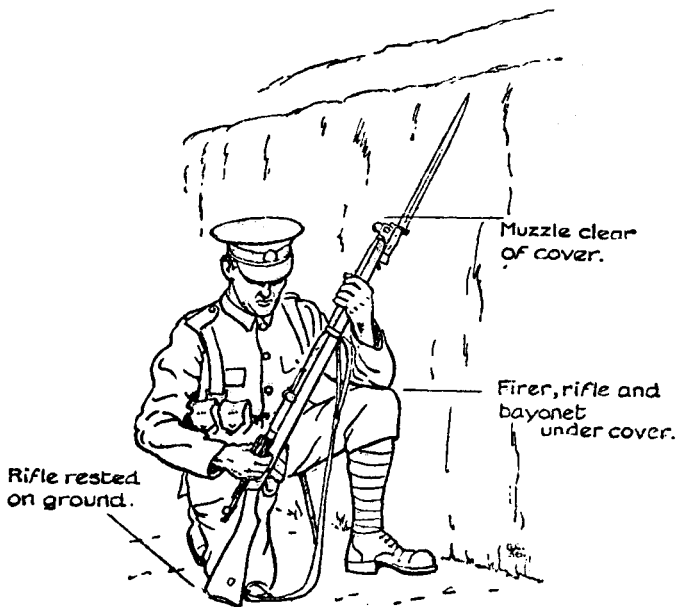

FIG. 32
To load with a further five rounds adopt a convenient position behind cover, load (see Fig. 32) and return to position of readiness. If, however, more than five rounds rapid fire is ordered, load the additional rounds on top of cover.
4. Explain method of loading with a further five rounds (see Fig. 32), as in kneeling position (Lesson 21).